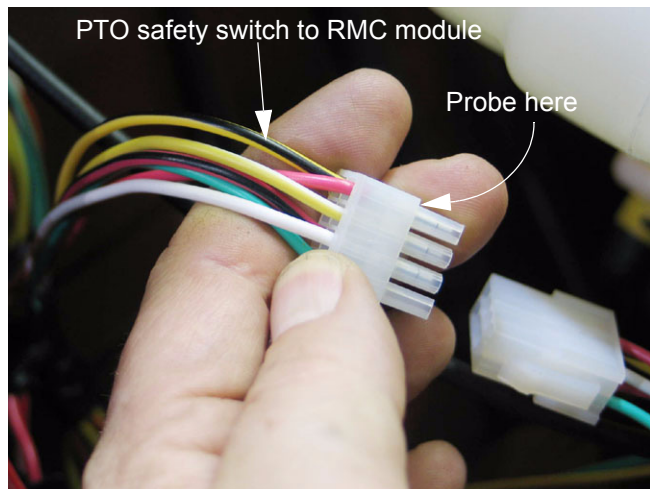

Figure 17.17
17.17. Yellow wire with black trace from the 8-pin pigtail connector provides input to the module from the **PTO switch**: See Figure 17.17.